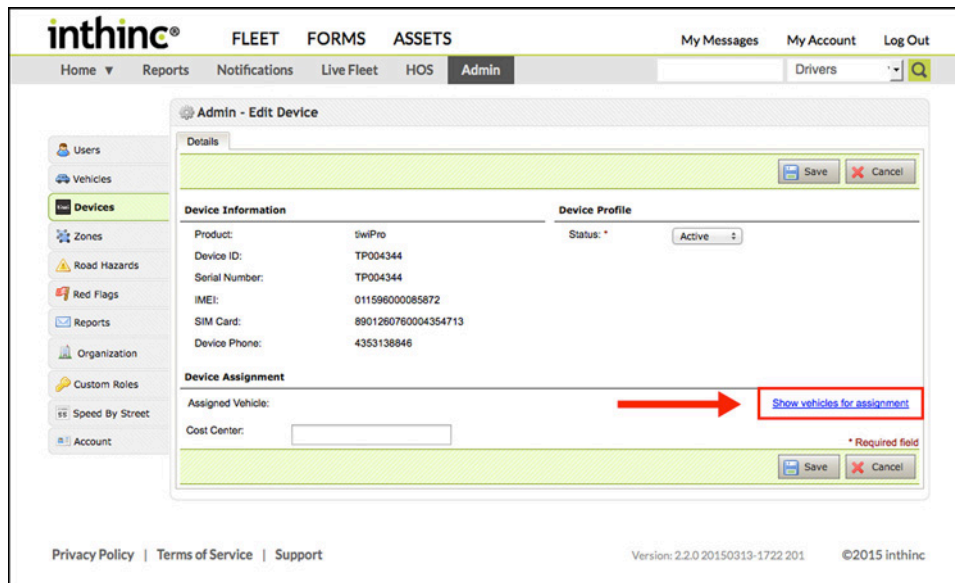

Figure 45 Device detail with Show Vehicles for Assignment link highlighted
- 3 From the Edit Device form page, click the **Show vehicles for assignment** link in the *Device Assignment* section. (Figure 45)